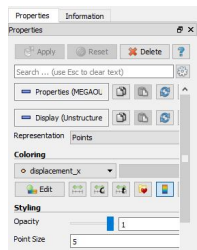

Figure 4: Select representation type
Step 3 Select representation type (Points and Point size).(Figure.4)